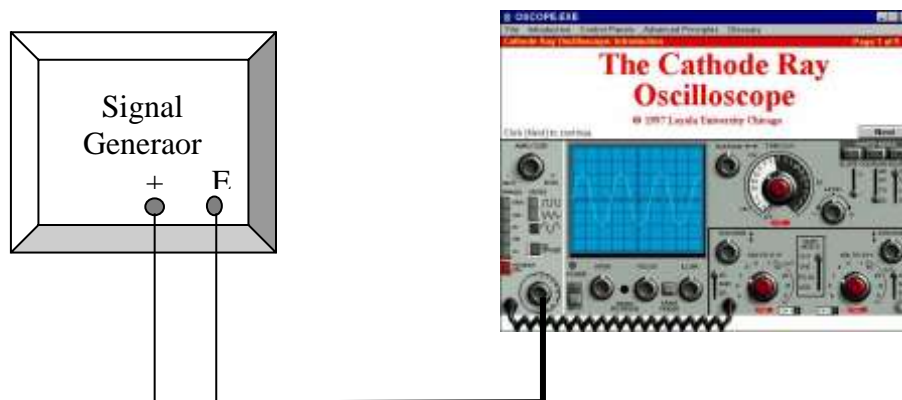

Fig. 21-2
1. Connect the signal generator up to the oscilloscope as shown in Fig. 21-2. Set the generator to output sine wave at frequency of 500 Hz. You should see a steady sine wave on the screen. If not, press in the trigger level button. Adjust the intensity and focus controls to give a sharp, but not too bright, image.